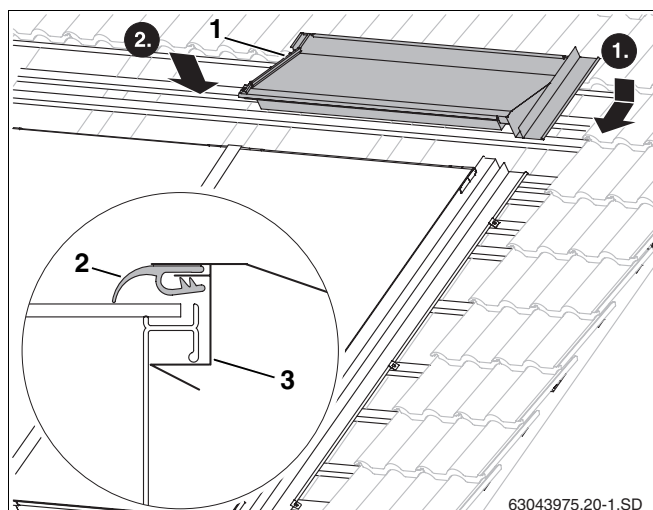

Fig. 54 Upper right facing panel
- ▶ Feed the upper right facing panel (Fig. 54, **Item 1**) into the side facing panel on the right.
- ▶ By applying pressure to the top of the facing panel, it clicks under the recessed channel on the collector frame (Fig. 54, **Item 3**).
- ▶ Place the rubber lip (Fig. 54, **Item 2**) on top of the collector.